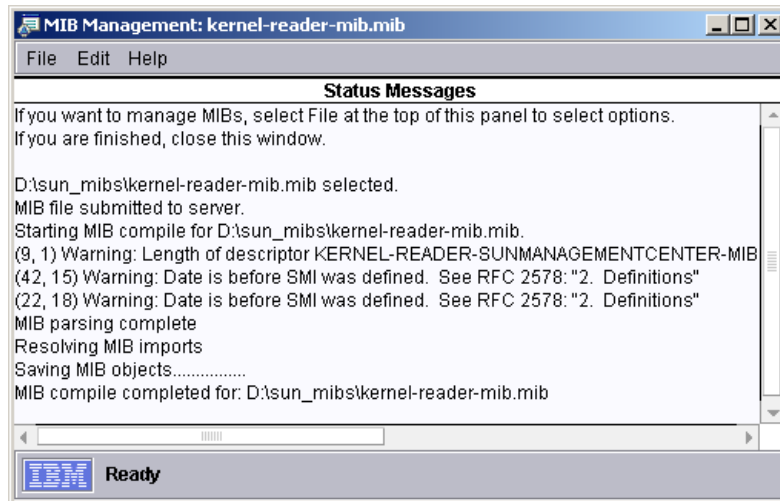

Figure 3-8 MIB Management window shows status of MIB compilation and any errors if they occur
4. You are returned to the MIB Management window, as shown in Figure 3-8. This window provides status information while the MIB compiles and lists any errors encountered in compiling the MIB file.